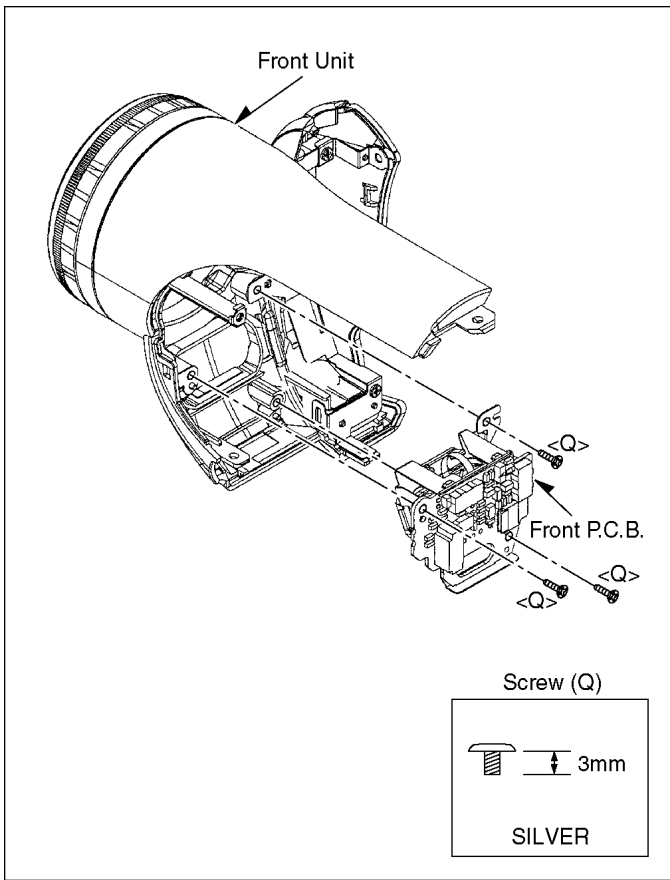

Fig. D12
| 9 | Front P.C.B. | Fig. D12 | 3-Screws (Q) Front P.C.B. |